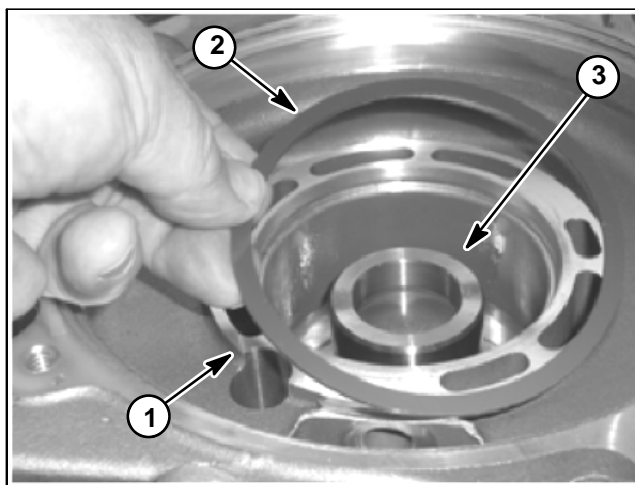

Figure 26
7. Place the gear spacer to the gear case and then install the ring gear into the gear case (Fig. 26).